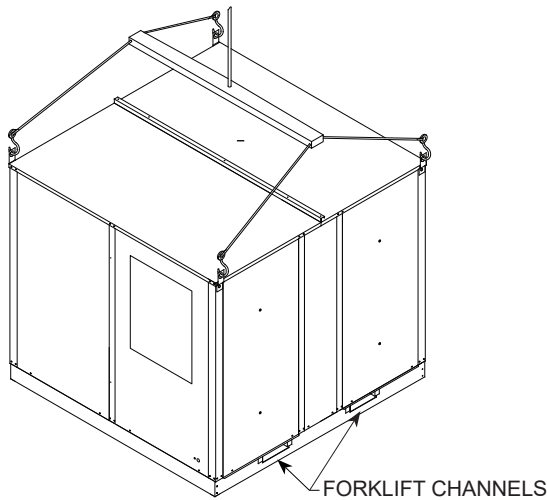

Figure 1
7. Forklift channels must be removed from the base of the ERV. **See Figure 1.**
8. Attach lifting straps to the provided lifting lugs on the top 4 corners of the DB through DG units. **See Figure 1.**